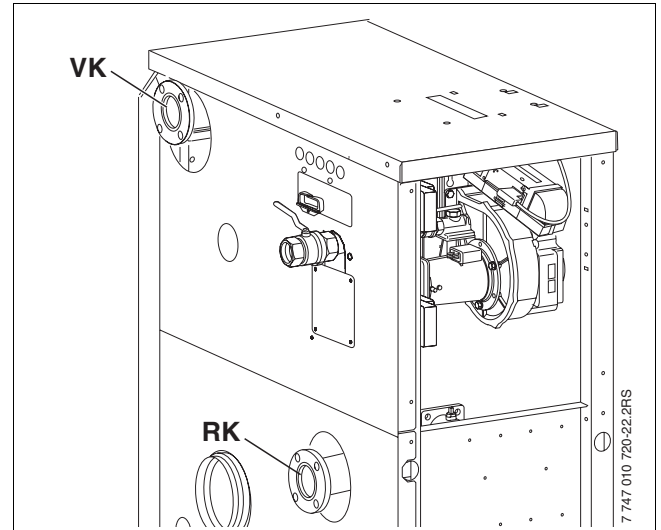

Fig. 23 Water connections
- Fit and seal the pressure relief valve in the connection provided using the NPT double union supplied (→ Figs. 23 and 24).